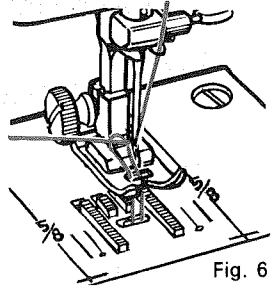

Fig. 6
6. Tighten clutch knob and remove bobbin. (Fig. 6)
6. Pull thread through slot of case as shown. (Fig. 6)
6. Hold needle thread loosely in left hand and rotate hand wheel toward you one complete turn. This will bring a loop of bobbin thread up through needle hole. (Fig. 6). Pull bobbin thread loop to surface and extend thread to back of machine.